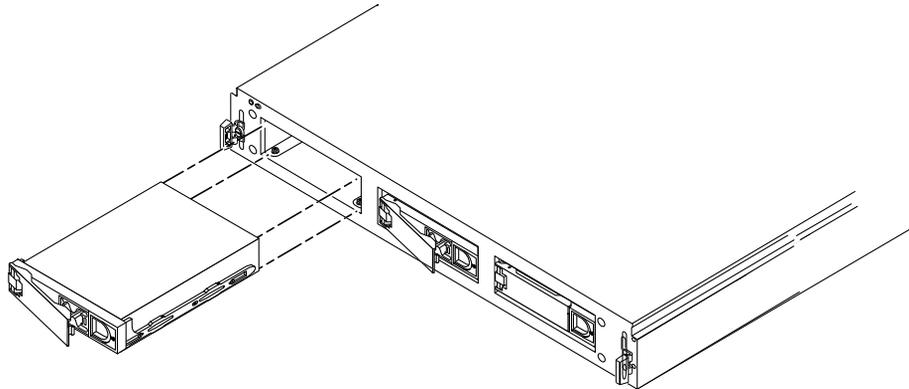

FIGURE 4-1 Adding a Disk Drive
- 5. Open the locking handle on the disk drive by sliding the latch in the direction marked on it** (FIGURE 4-1).